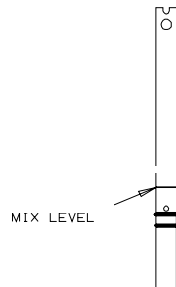

Figure 9-4 Mix Level Line
3. Fill the hopper with mix to the mix level line (figure 9-4) on the mix tube assembly (1-1/4 pints).